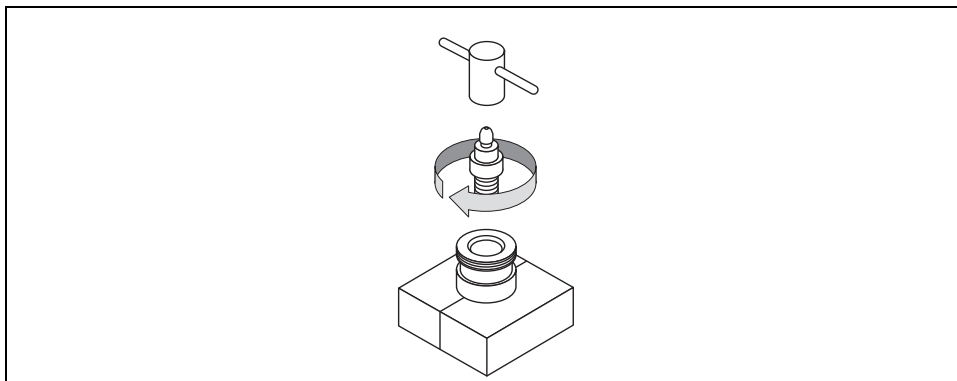

Figure 15-14. Clean/Replace the Jet (3)
- a. Place a new jet into the housing and tighten it with the proper tool. Ensure the jet is perfectly vertically aligned to avoid damaging its ceramic part. See Figure 15-14.